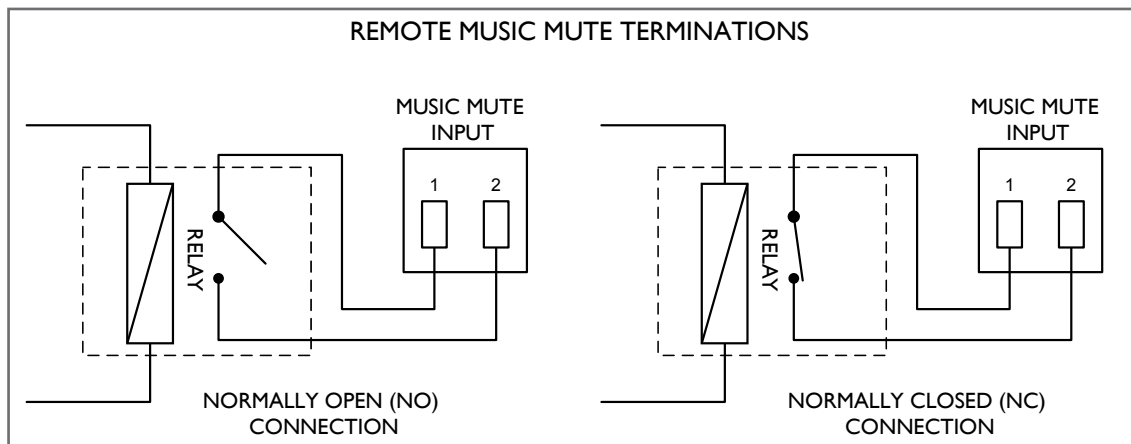

fig.8: Remote Music Mute
Activation of the Music Mute is often via a relay mounted close to the MPA Series amplifier, powered by the fire alarm control panel. Other arrangements may exist depending on the design of the fire control system and the fire alarm installation company should be consulted when making the connection. The MPA Series amplifiers will mute on either a contact closure at the Music Mute input (NO) or an open-circuit (NC). Selection of NO or NC operation is made with internal jumper J14. NO is the factory default. See *fig.8*.